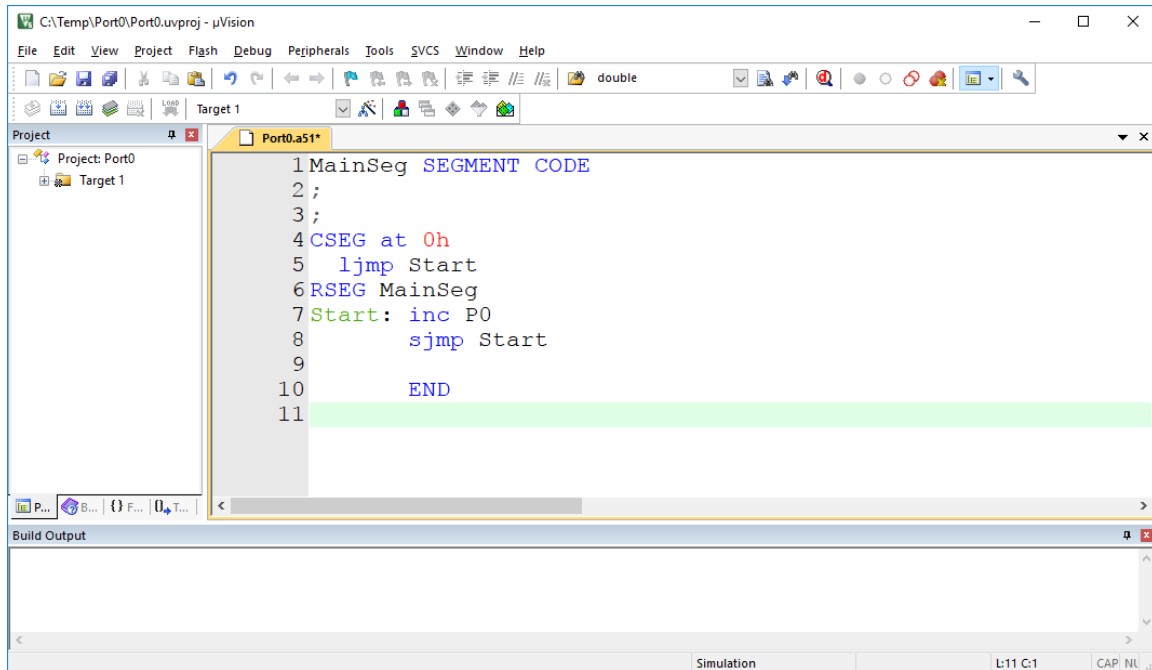
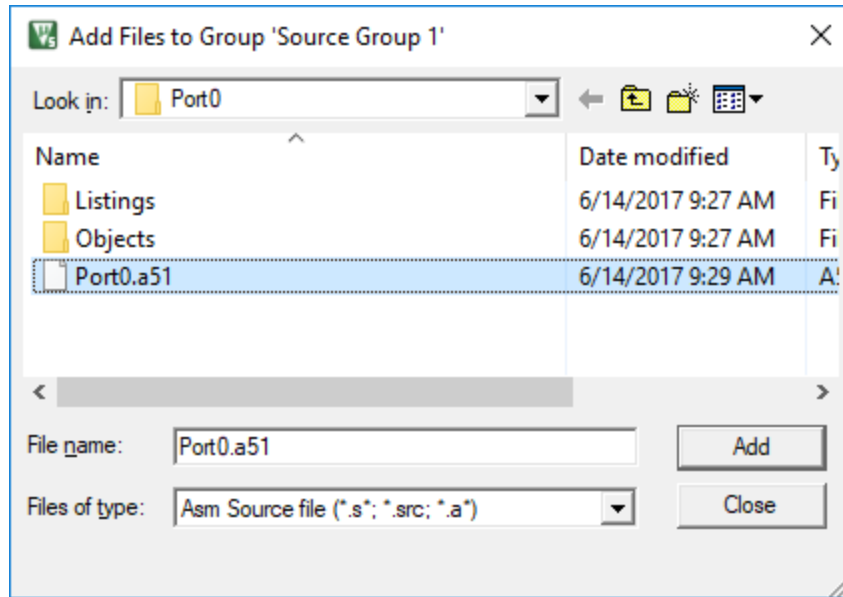
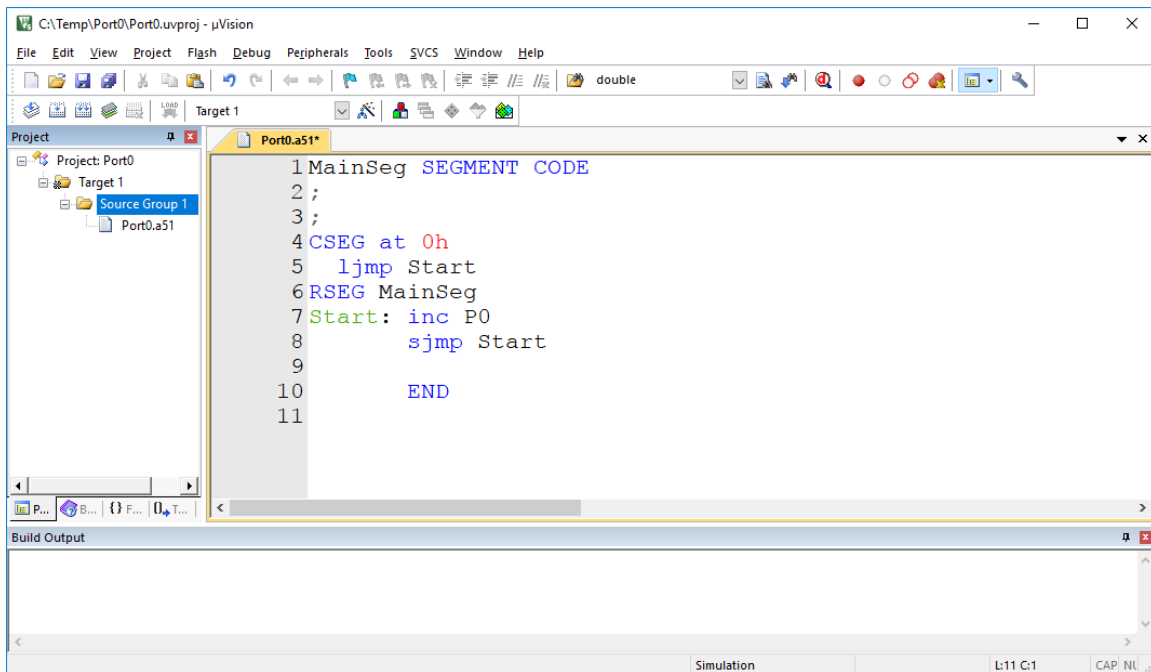

Figure 5
Figure 6
Figure 7
7. Enter the program shown in Figure 5 and save the result. The source code has been entered but it is still not part of your project. To make it part of the project you must add it to Source Group 1. Do this by right clicking on *Source Group 1* in the Project window. this is shown in Figures 6. In the selection box for the files to add you will have to select files of type "ASM Source files". After selecting this file type select Port0.a51. Click on "Add" and then "OK". Figure 7 shows the results in µVision Project window after the file has been added.